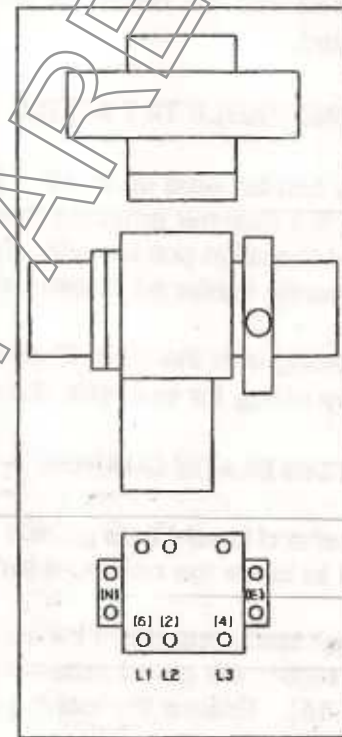

Fig 5
Remove the screw retaining the electrical control housing. Remove the housing cover by removing the retaining screws. Pass the supply lead through the cable gland located on the lower end of the housing. Connect the supply leads to terminals L1, L2 and L3 on the isolator. Connect the protective earth lead (yellow/green) to the earth terminal (E). Connect the neutral wire to terminal N if required (see fig 5).
Remove the screw retaining the electrical control housing. Pass the supply lead through the cable gland located on the lower end of the housing. Connect the live (brown) lead to terminal L3 on the isolator. Connect the neutral (blue) wire to terminal L1. Connect the protective earth lead (yellow/green) to the earth terminal (E) (see fig 5). The use of 1.5mm² cable and fuses rated at 15 A is recommended.